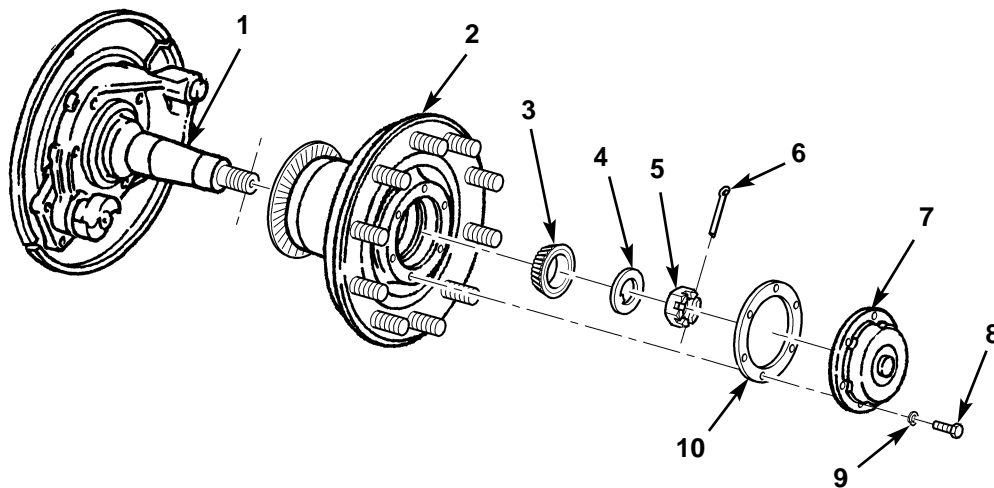

Figure 6. Installing Front Wheel Hub.
8. Fill cavity of front hub (figure 6, item 2) with grease and carefully position hub (figure 6, item 2) on spindle (figure 6, item 1).
9. Apply grease to outer bearing cone (figure 6, item 3) and position bearing cone (figure 6, item 3) on spindle (figure 6, item 1) against outer cup of front hub (figure 6, item 2).
10. Install key washer (figure 6, item 4) and slotted nut (figure 6, item 5) on spindle (figure 6, item 1) and using 2-1/4 in. (57 mm) socket, tighten slotted nut (figure 6, item 5) to 50 lb-ft (68 N•m). Back off slotted nut (figure 6, item 5) 1/4 to 1/3 turn until hole in spindle and slot in nut line up. Rotate hub; hub should rotate freely.
11. Insert new cotter pin (figure 6, item 6) through slotted nut (figure 6, item 5) and hole in spindle (figure 6, item 1). Bend ends of cotter pin (figure 6, item 6) over slotted nut (figure 6, item 5) and into hole in center of spindle.
12. Install new gasket (figure 6, item 10) and cap (figure 6, item 7) on front hub (figure 6, item 2) with six new lockwashers (figure 6, item 9) and bolts (figure 6, item 8).